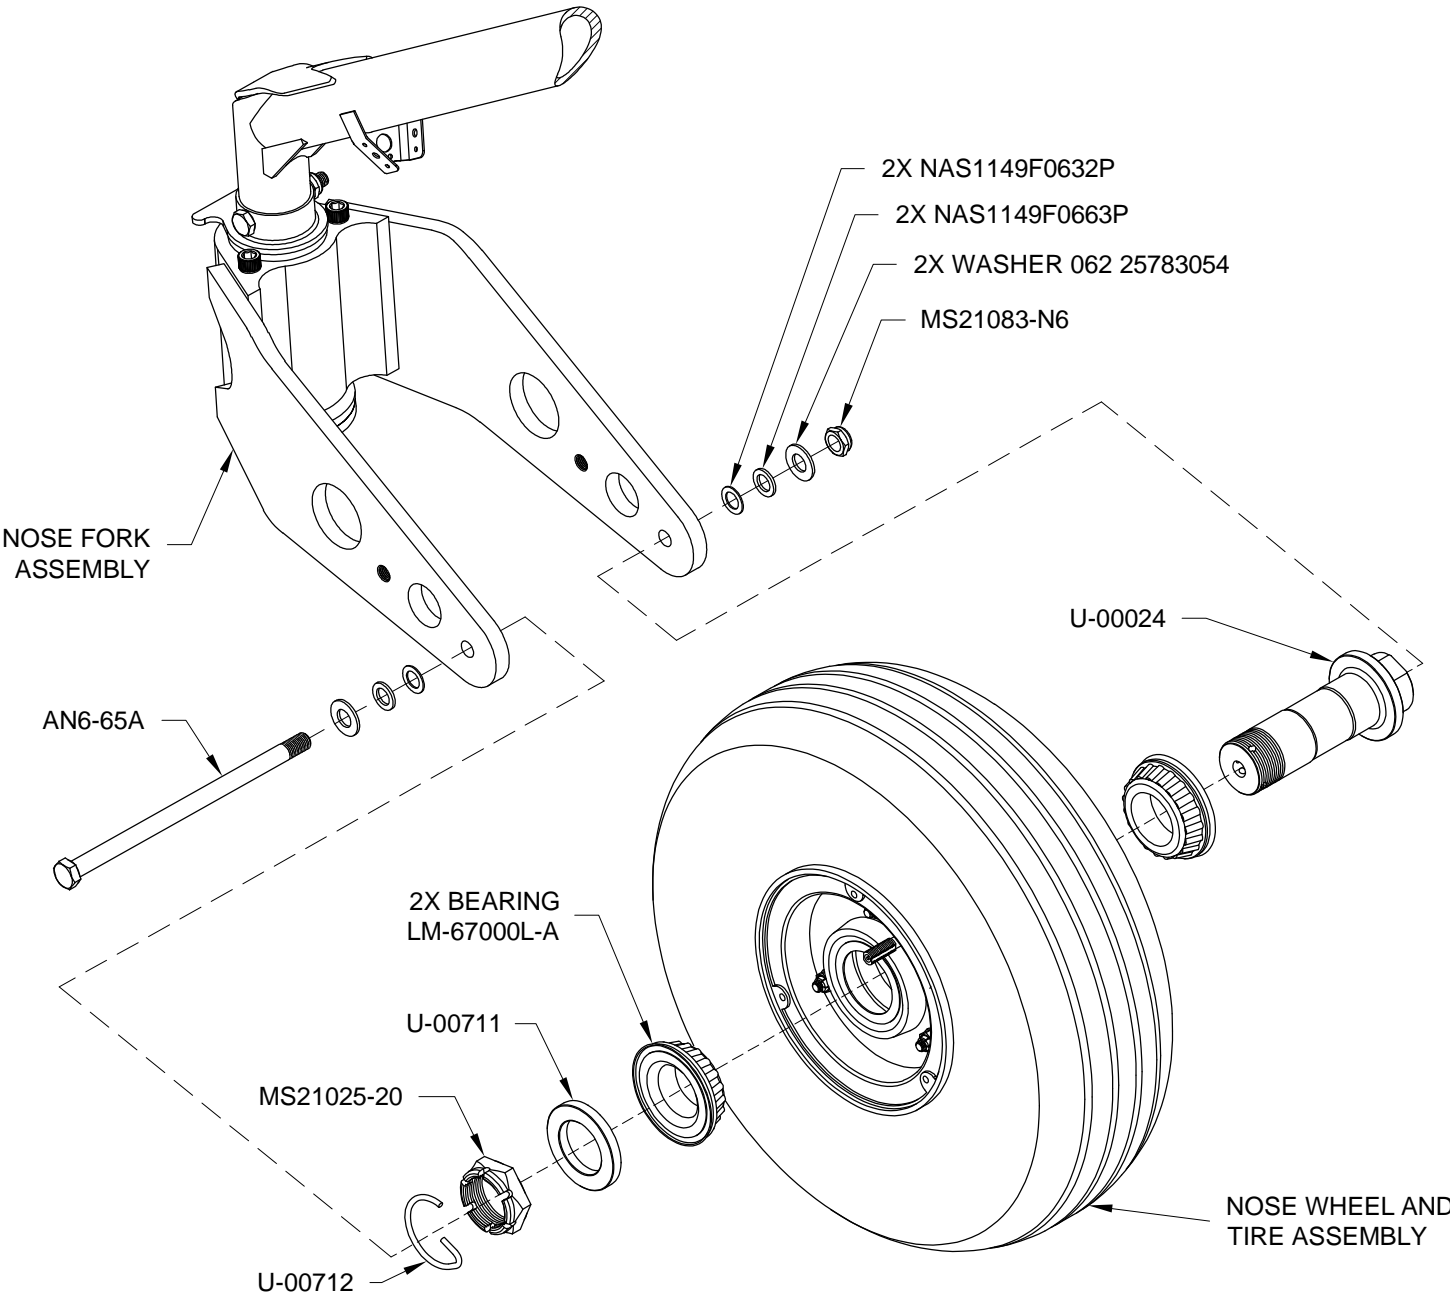

FIGURE 3: INSTALLING THE NOSE WHEEL & TIRE ASSEMBLY
Coat the outer perimeter of the seal with grease where it contacts the Nose Wheel Assembly. Insert the bearings into the Nose Wheel Assembly. See Figure 3 detail.
Step 2: Slide the U-00024 Axle through the bearings, then slide the two U-00711 Axle Spacer over the end of the axle and thread on the axle nut. See Figure 3.
Step 5: Bolt the Nose Wheel and Tire Assembly, and the axle to the Nose Fork Assembly using the hardware called-out in Figure 3.